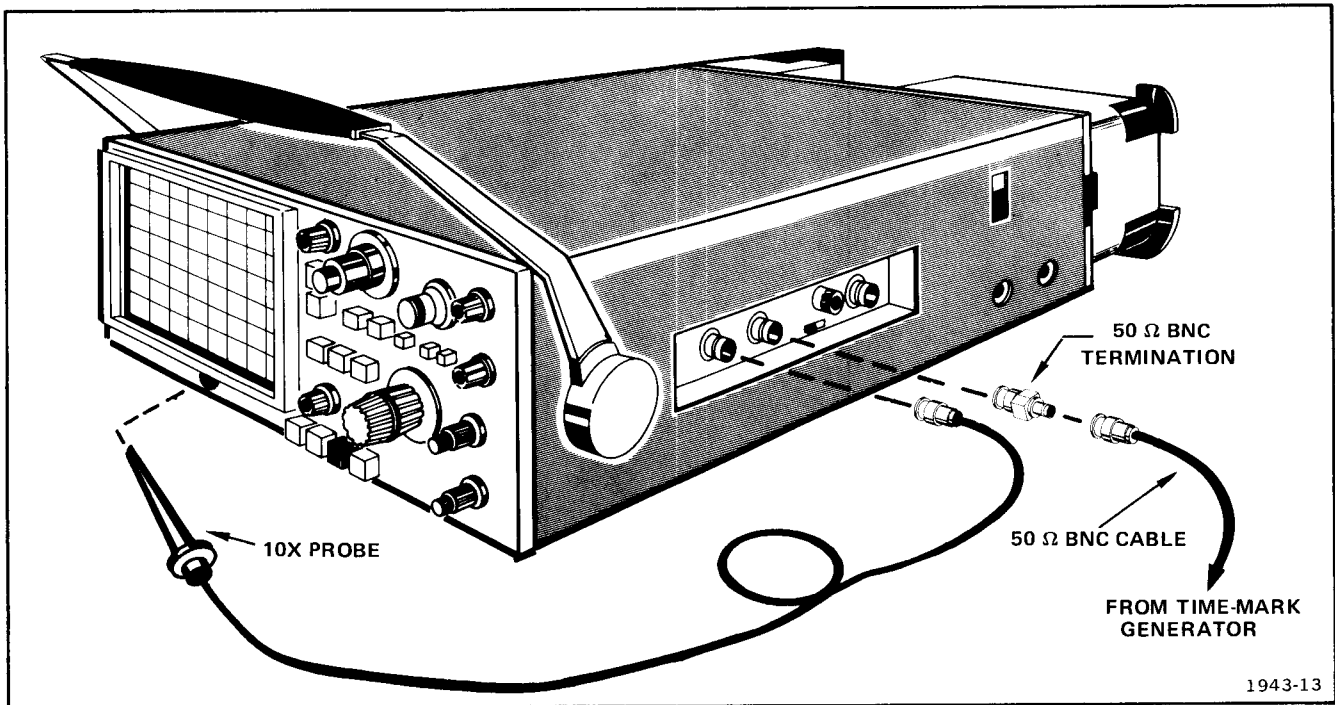

Fig. 5-12. Equipment setup.
a. Connect test equipment as shown in Fig. 5-12 and set Time-Mark Generator to 1 ms.